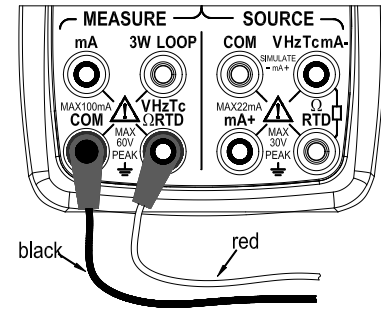

Figure 11 Measuring DC voltage, ohms, frequency, continuity and switch
**For DC voltage, Ohm, frequency, consistency or switch measurement (Figure 11)**
**Step 3:** Connect the lead cables for measurement to the measuring terminals of the measuring instrument under test as shown in Figure 11.
“” on the upper part. Connecting the devices as shown in Figure 11, the beeper sounds continuously if the loop circuit resistance under measurement is less than 50Ω, and LCD shows the present measured resistance value.